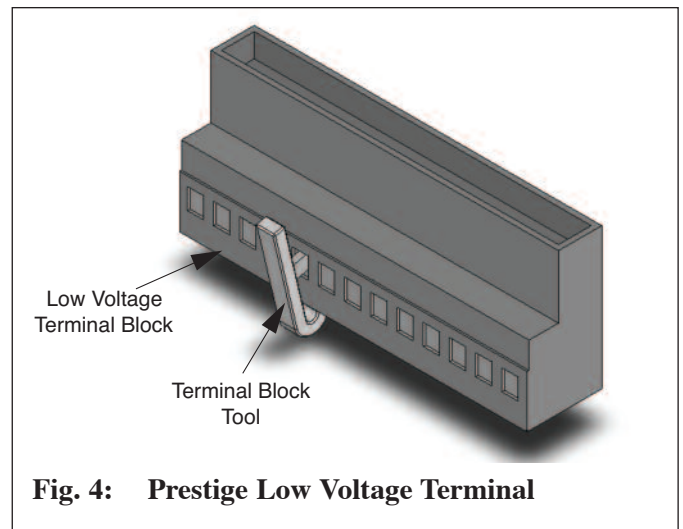

Fig. 4: Prestige Low Voltage Terminal
6. Disconnect the bottom half of the Prestige's low voltage terminal block. Strip the wire ends and attached to the terminal block terminals 11 and 12 using the terminal block tool supplied with the Prestige. See Figure 4